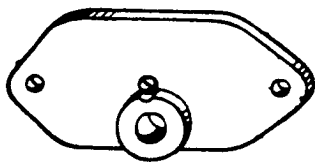
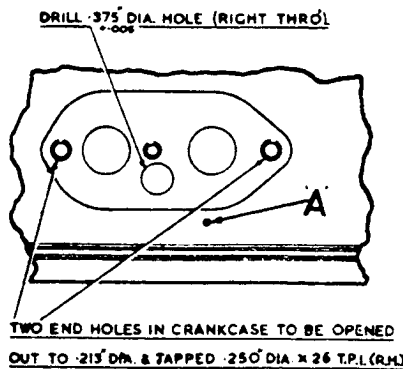

FIG. 6. DRILLING TEMPLATE - CRANKCASE OIL RELIEF VALVE FACING.
FIG. 7. SCRAP VIEW SHOWING DRILLING ETC. OF CRANKCASE OIL RELIEF VALVE FACING.
- (i) Remove the oil relief valve overflow pipe, (11/16"dia) from the interior of the crankcase, by twisting to shear the small securing taper pin. With a suitable punch tap out the remaining portion of the pin from the crankcase. For position of pin, refer to point 'A' Fig.7. Remove the sheared portions.
- (v) Place the drilling template R-4674 (Fig.6) in position against the oil relief valve facing of the crankcase and secure. Drill a .375" (9.5m/m) dia. hole through the side of the crankcase (See Fig.7) and remove the template. Remove the three 2-BA studs from the facing, and with the .213" (5.41m/m) dia. drill, open out the two OUTER stud holes and tap .250" dia. 26 T.P.I.-R.H. (See Fig.7.)